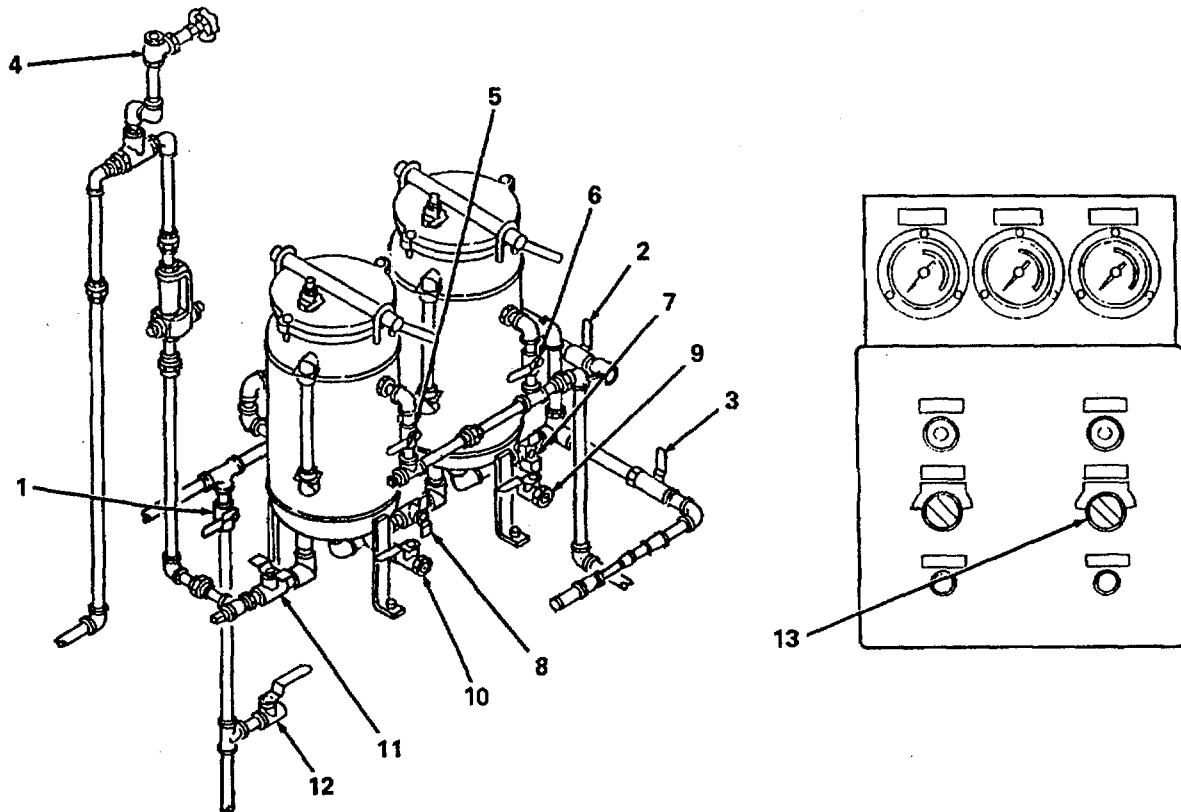

Figure 2-16. Oil/Water Separator Operation.
- (1) Open bilge/suction pump inlet valve (1, figure 2-16), hose/suction pump inlet valve (2), or deck/suction pump inlet valve (3), as required.
- (2) Close vacuum breaker valve (4).
- (3) Open oil discharge valves (5) and (6).
- (4) Open water inlet valves (7) and (8)
- (5) Close drain valves (9) and (10).
- (6) Open water outlet valve (11).
- (7) Close bilge drain valve (12).
- (8) Set SUPPLY PUMP switch (13) to ON position.
- (9) When oil is visible in sight glass of either filter stage, open oil discharge valve (5) or (6), as applicable, and close water outlet valve (11).